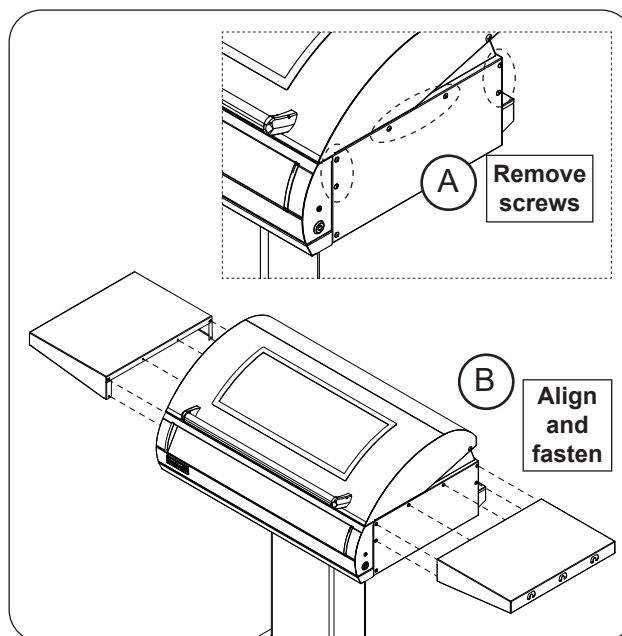

Fig. 35-2 Install rigid shelves
1. Locate and remove the Phillips-head screws shown in Fig. 35-2, A.
3. Insert the six screws and hand-tighten slightly (see Fig. 35-2, B).